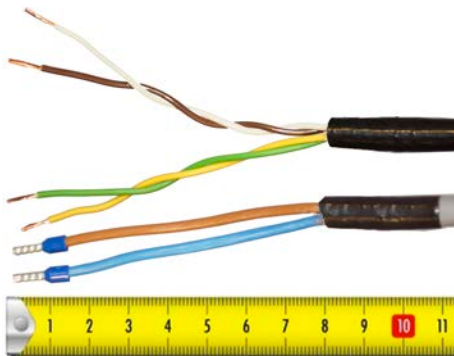

Figure 7: Cable Preparation Receiving Cable Sides
3. Attach the isolated cable end to the metal saddle on the rear of the instrument. See *Figure 7: Cable Preparation Receiving Cable Sides* on page 14.